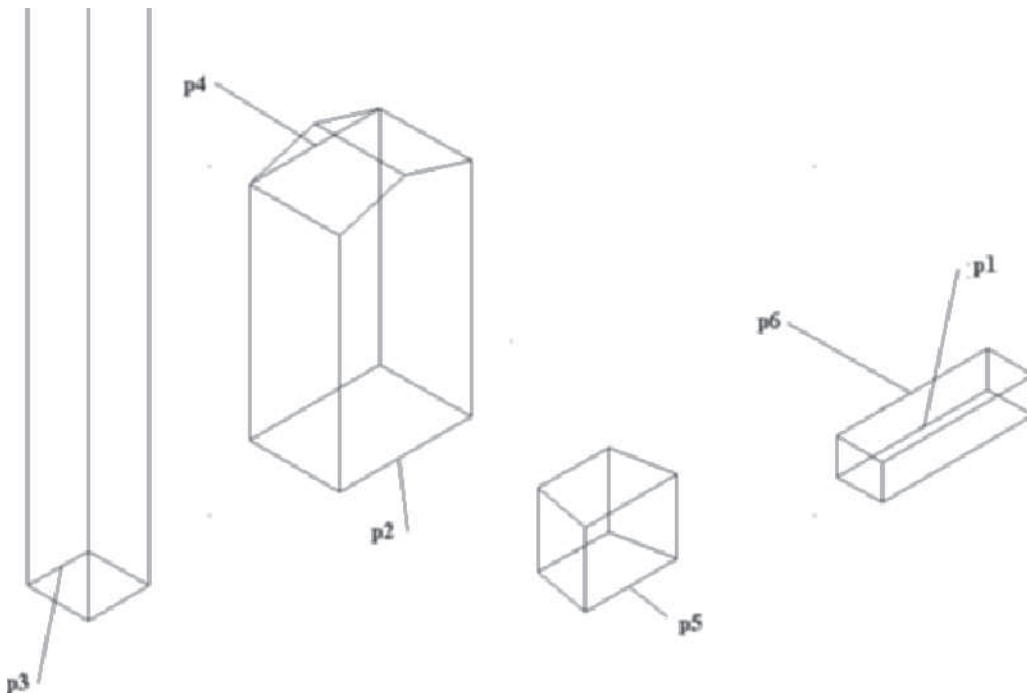

FIGURE 4.70 Moving mass elements to create a fireplace mass group
5. Select the Home tab. Right-click in the workspace and choose Basic Modify Tools > Move. Move the mass elements by responding to the following prompts as shown in Figure 4.70.
Select objects: (Select the mass element at p1 as shown in Figure 4.70.)
Select objects: (Select the box mass element at p3 as shown in Figure 4.70.)
Select objects: (Select the mass element at p5 as shown in Figure 4.70.)